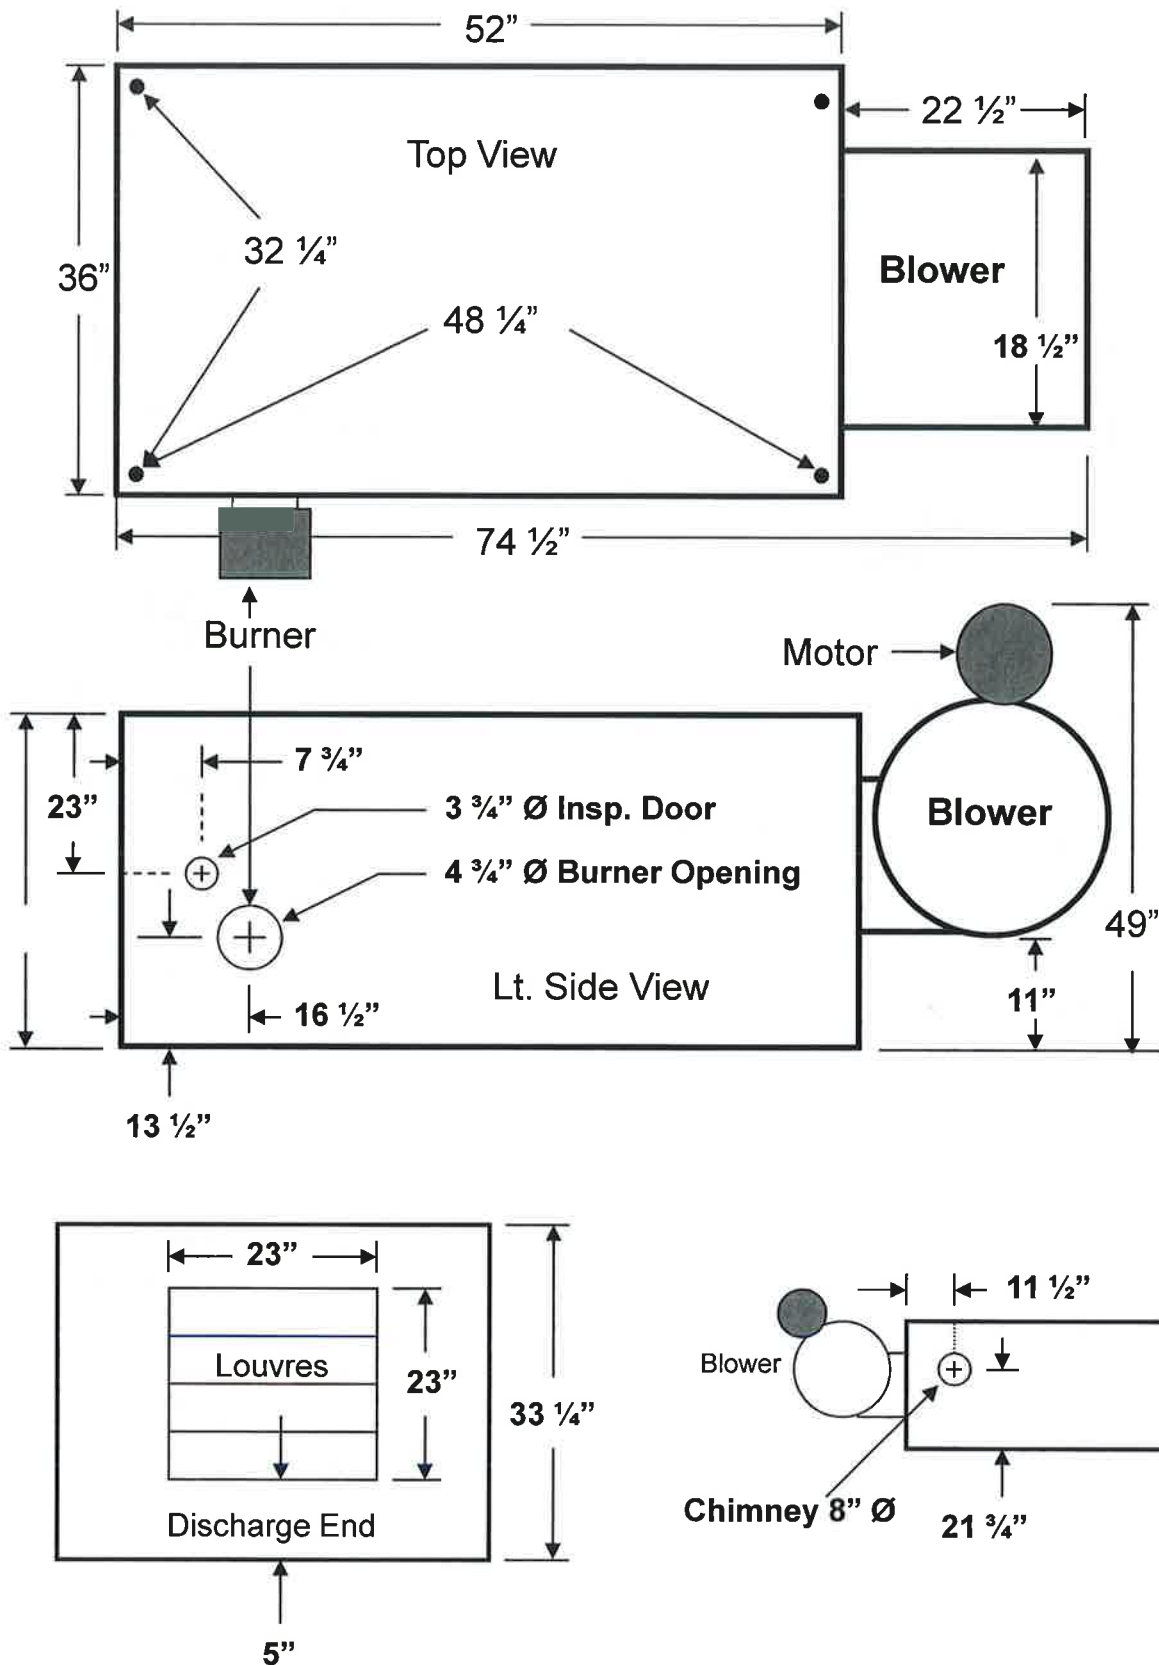

Figure 2
- Dimensional view of HW 250 (measurements)	Figure 2